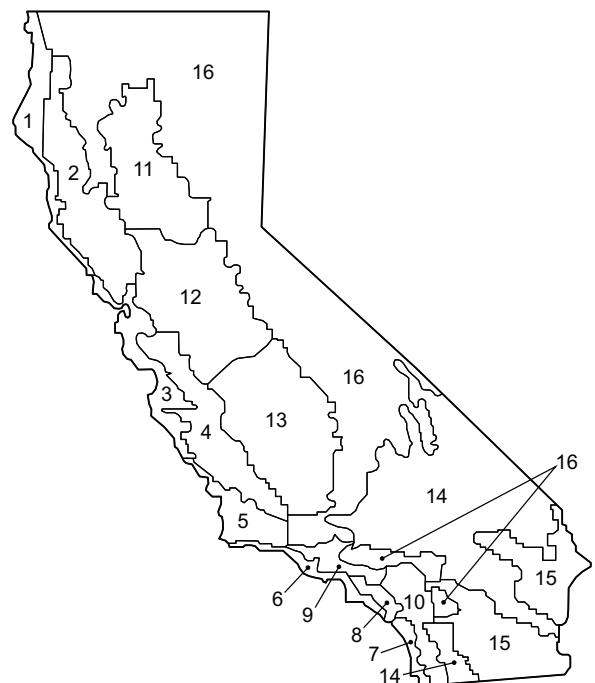

Fig. 80 — California Title 24 Zones
b. Refer to Fig. 80 for map of California Title 24 zones.